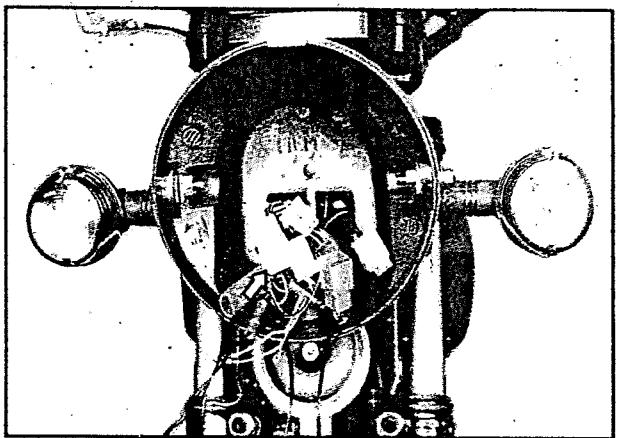

Fig 6.39
- Disconnect the lead wires (fig 6.39)